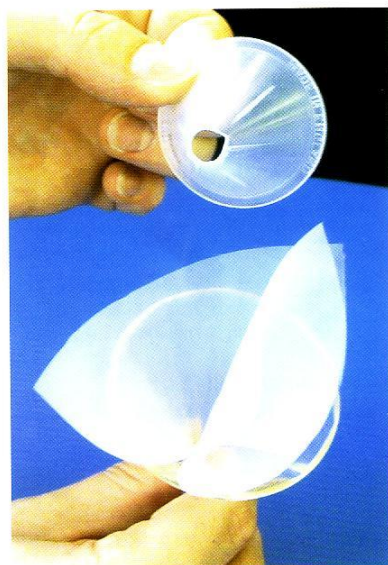

Figure 4 Cut plastic filter funnel inserted
4. Take the cut filter funnel and fit it on top of the mesh (Figs. 4 & 5).